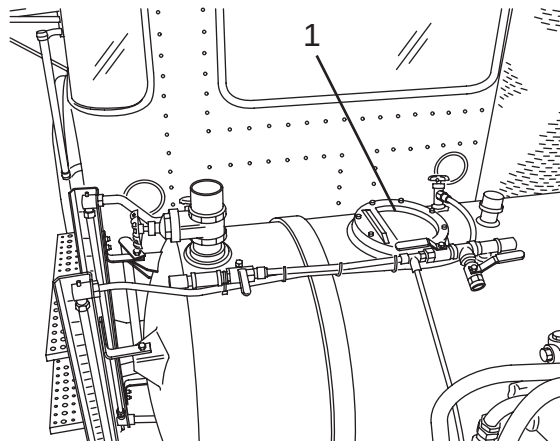

Figure 81
2. Place the water supply hose in the water tank flopper valve (Figure 81, Item 1).